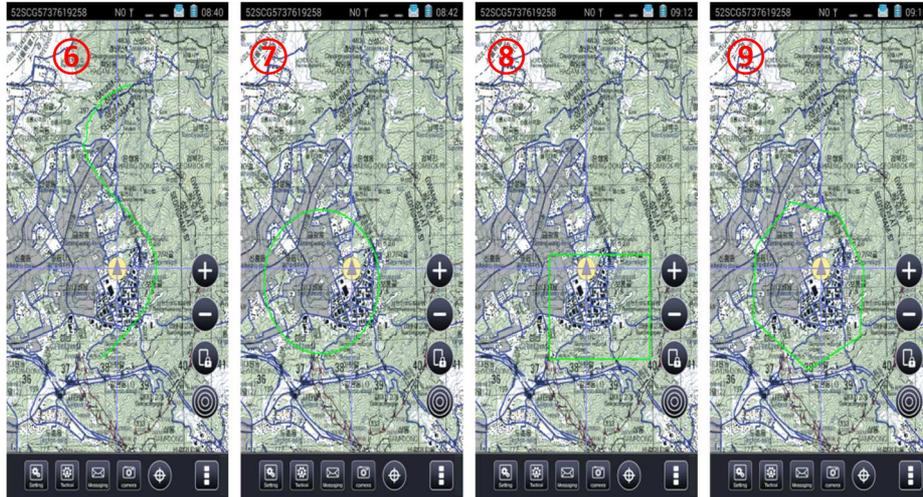

Figure 5-16 Hand sketch 2
Hand sketch support drawing of free line, circle, box, polygon in addition to “Path”. ⑥, ⑦, ⑧, ⑨ in Figure 5-16 Hand sketch 2 shows example of drawing of free line, circle, box and polygon respectively.